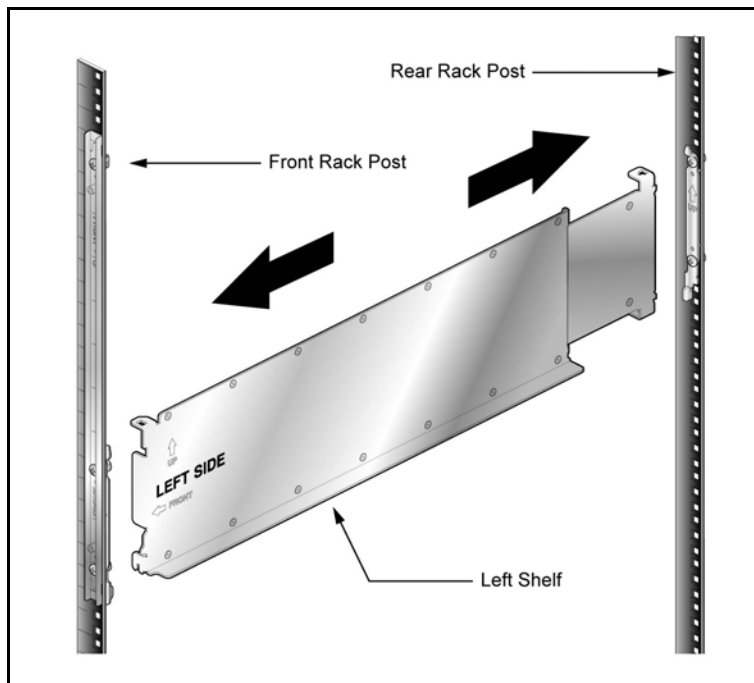

Figure 6: Adjusting the Left Shelf
Step 4 Adjust the left shelf by sliding its components to fit between the front left and front rear rack posts, as shown in Figure 6.